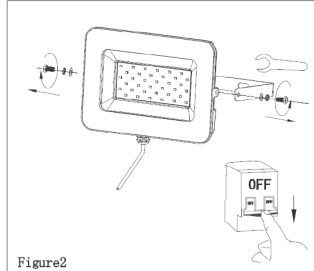

Figure2
2. Remove the screws holding the mounting bracket and remove the bracket (fig.2)